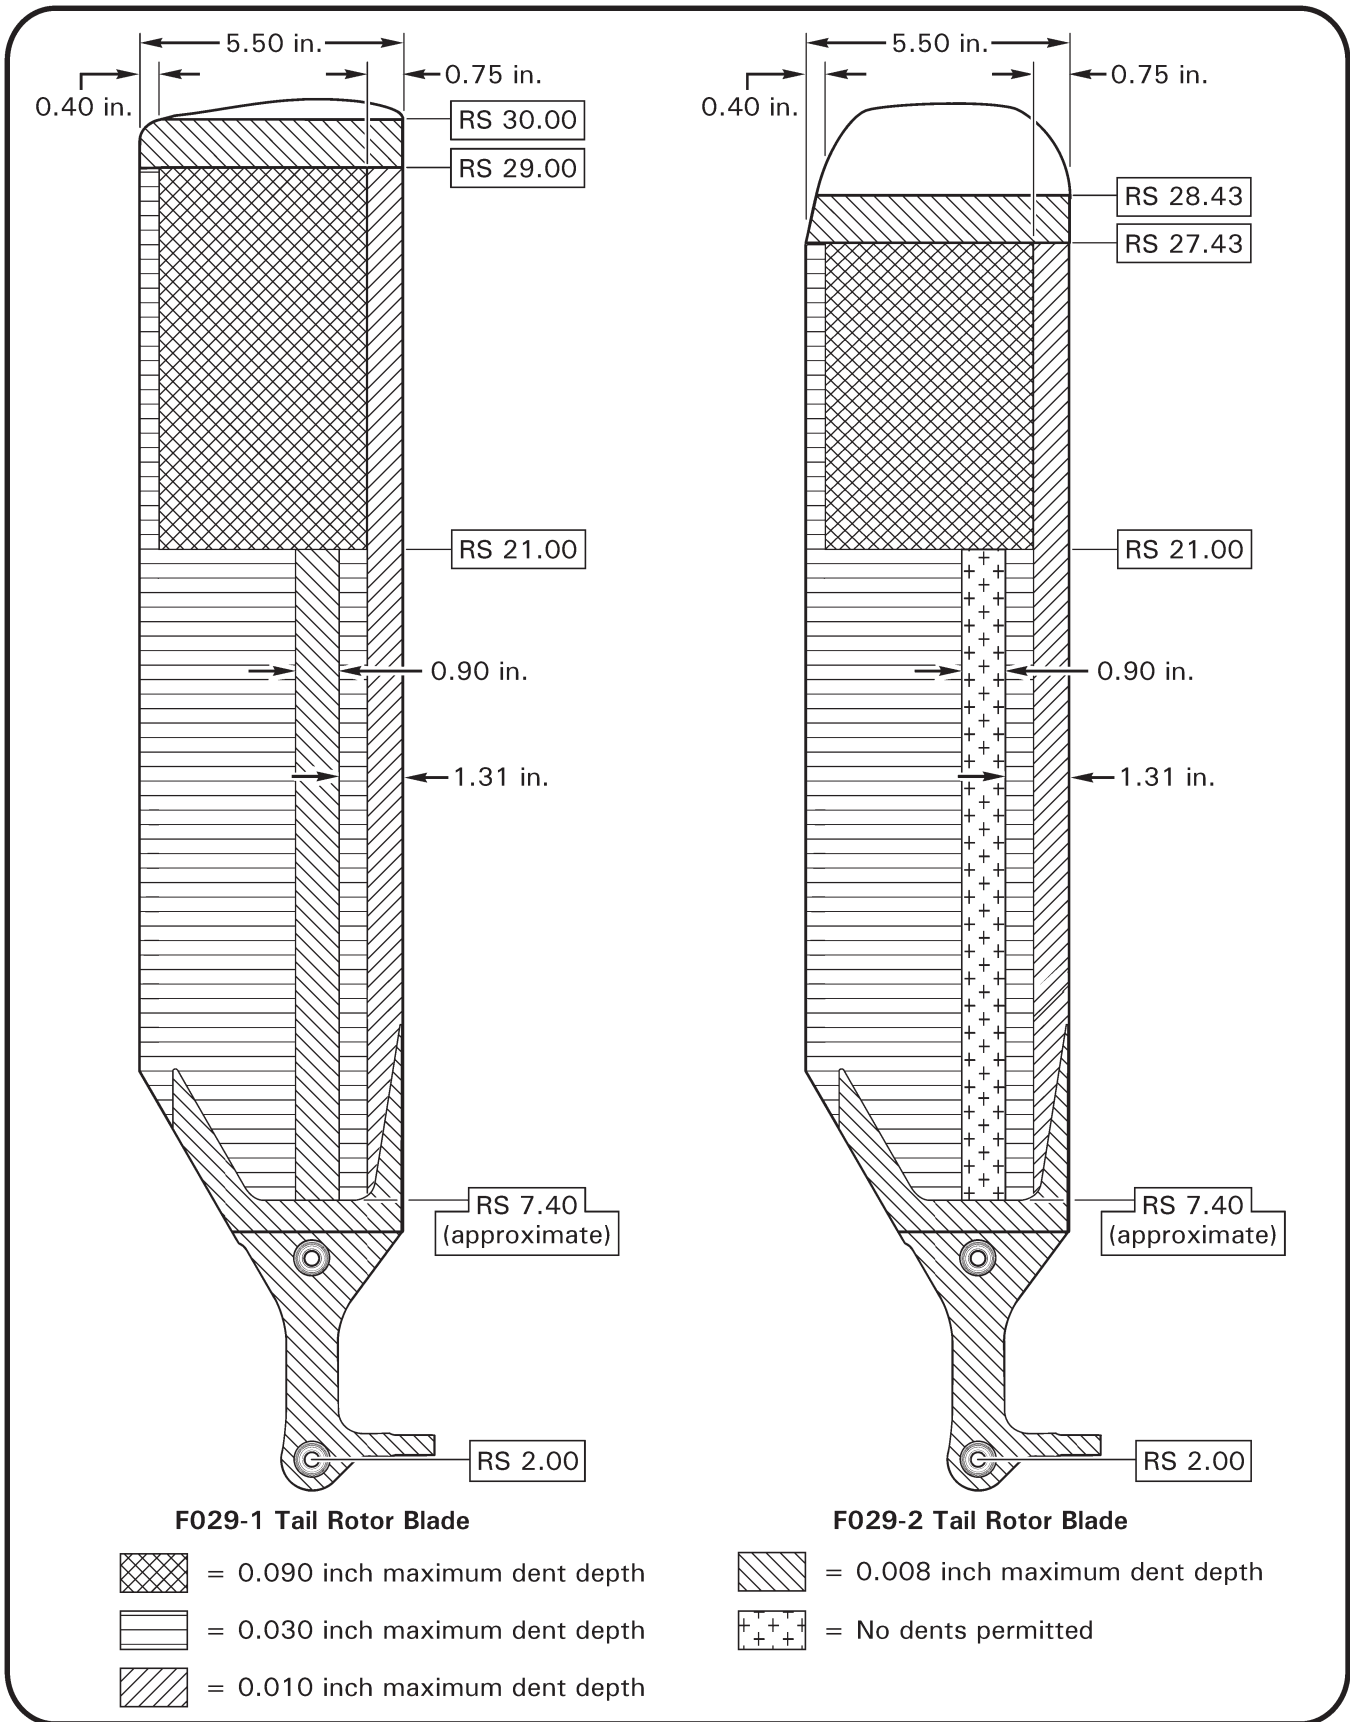

FIGURE 64-5 DENTS
1. Refer to Figure 64-5. Smooth, round bottom dents with 0.060 inch minimum radius may be repaired when damage does not exceed the following limits: